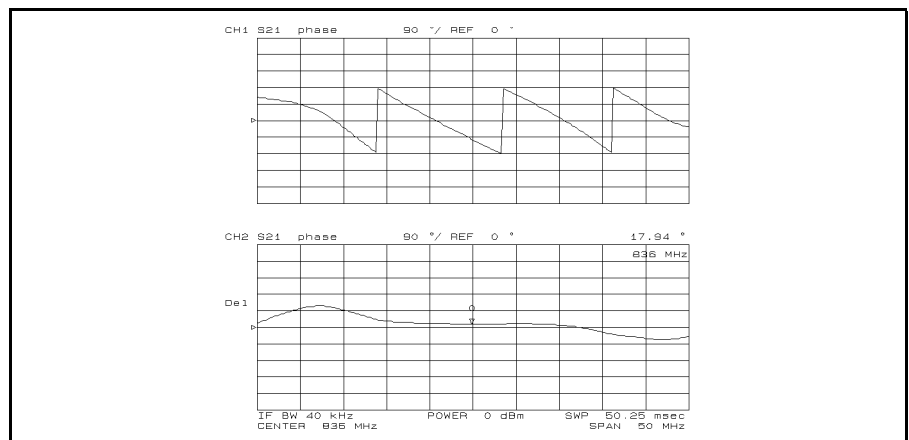

Figure 5-8. Electrical Length Adjustment
4. Press **[Display]** **DUAL CHAN** on **OFF** to **ON** off to display the results before and after the adjustment. The results are shown in Figure 5-8.
You can also determine the electrical length by pressing **[Scale Ref]** **ELEC DELAY MENU** **ELECTRICAL DELAY**. Then turn the rotary knob until the displayed trace is flat (see Figure 5-8). It may take many revolutions of the knob before the trace is flat.